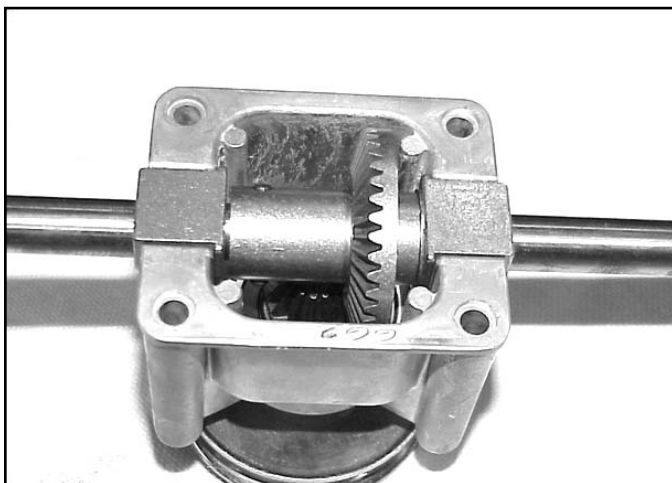

Fig 082
1. Remove the 4 screws holding the cover on the transmission. The axle, bearings, and bevel gear can be lifted out (Fig. 082).